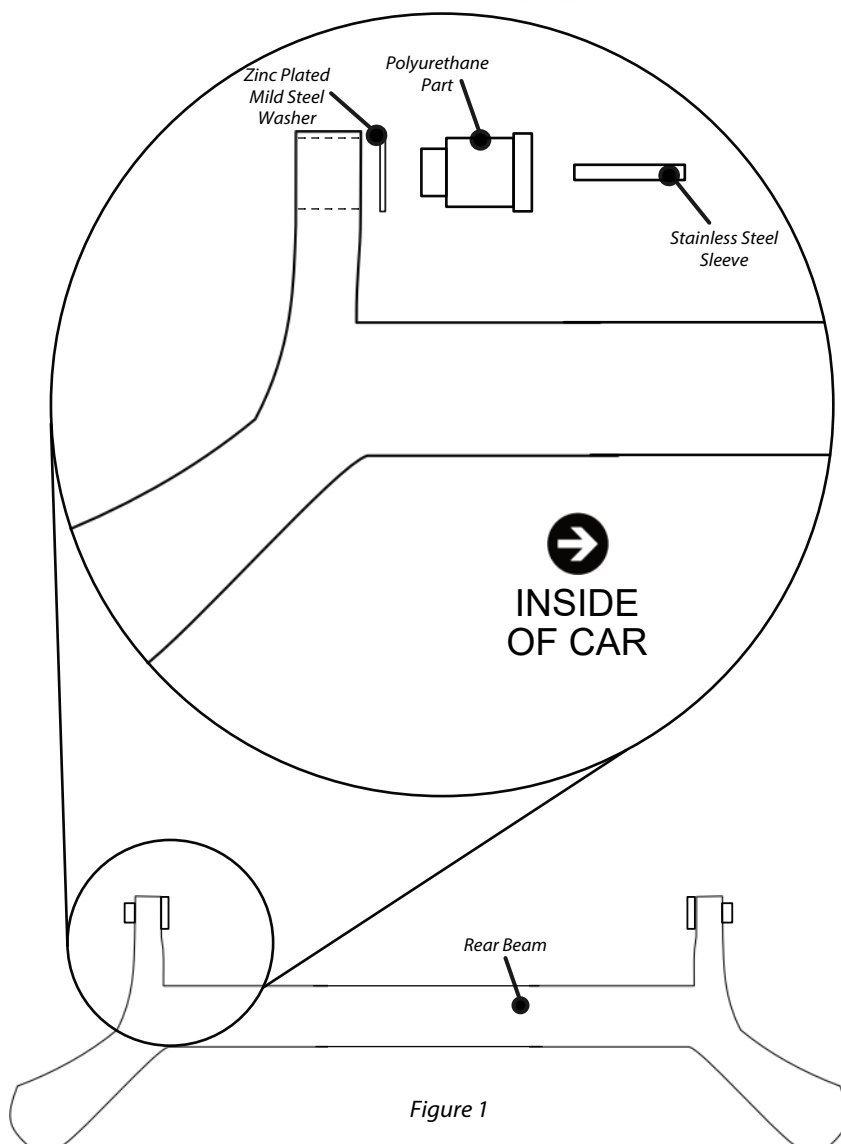

Figure 1
3. Slide the zinc plated mild steel washer onto the polyurethane part and insert the polyurethane bush into the rear beam, as shown in Figure 1, with the large diameter facing towards the inside of the vehicle.